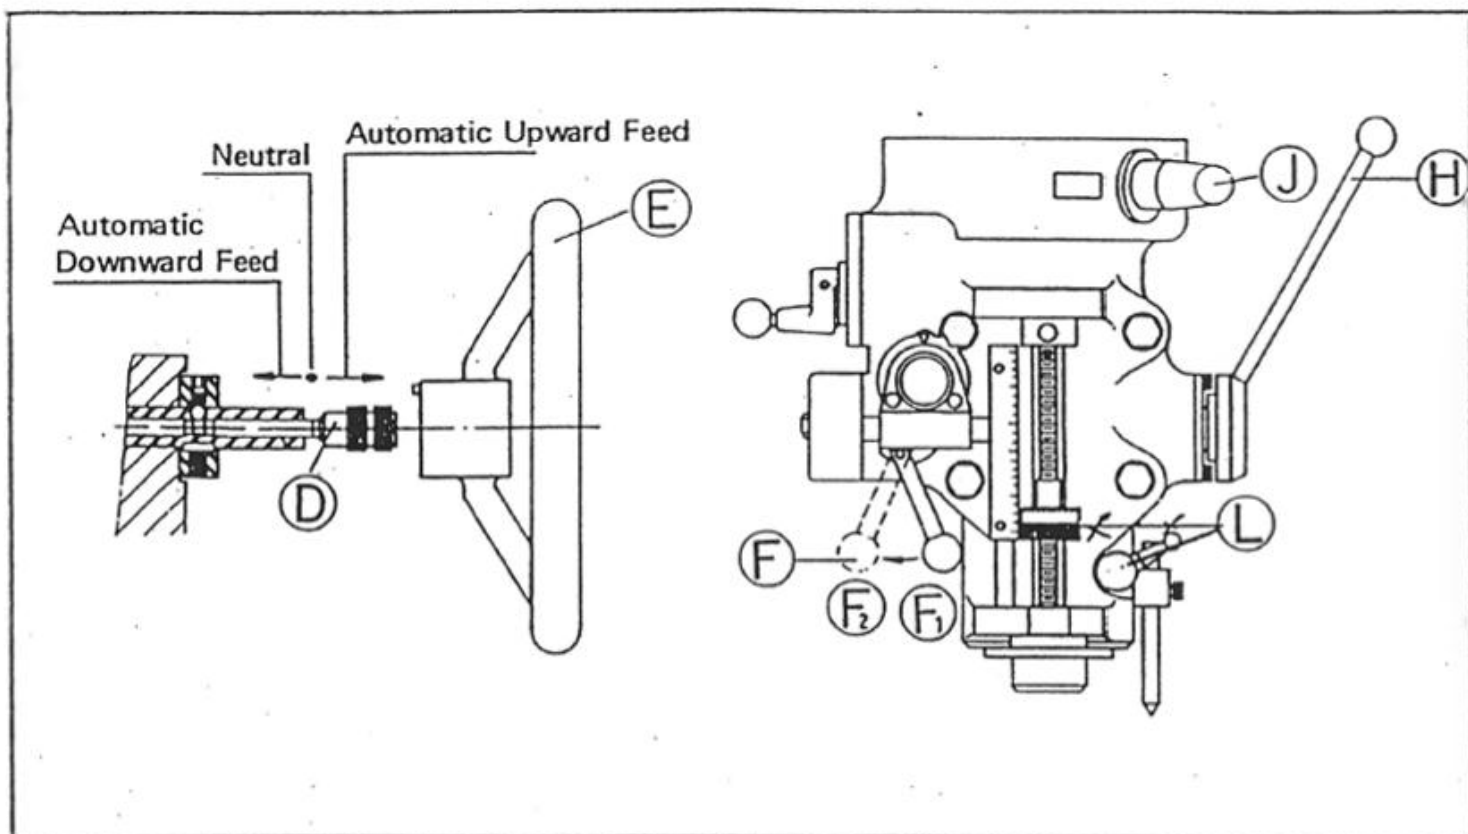

Fig. 13
(1) The manual feed lever is installed on the right side of headstock (Figure 13, H). The spindle will travel vertically when the lever is turned. There are 12 positions to be chosen. An operator can freely take out the lever and install it again at the position deemed proper and fit.
Note: In manual feed, the feed control handle (F) must be placed at position (F1) as shown in (Fig.13).
(2) Manual Micromotion Feed:
To effectuate the manual micromotion feed, the power-feed transmission engagement crank (J) (Fig.13) shall be placed at "OUT" position, and feed reverse knob (D) at the neutral position.
- a. Loosen the quill lock (L).
- c. Feed speed is in three stages. H, L and M. Selection may be made by quill feed selector (C). Put feed reverse knob (D) (Fig. 13) on neutral before change feed speed.
- e. When the feed reverse knob (D) pressed inward (Fig.13), it is for downward feed, and vice-versa. The middle position is neutral.